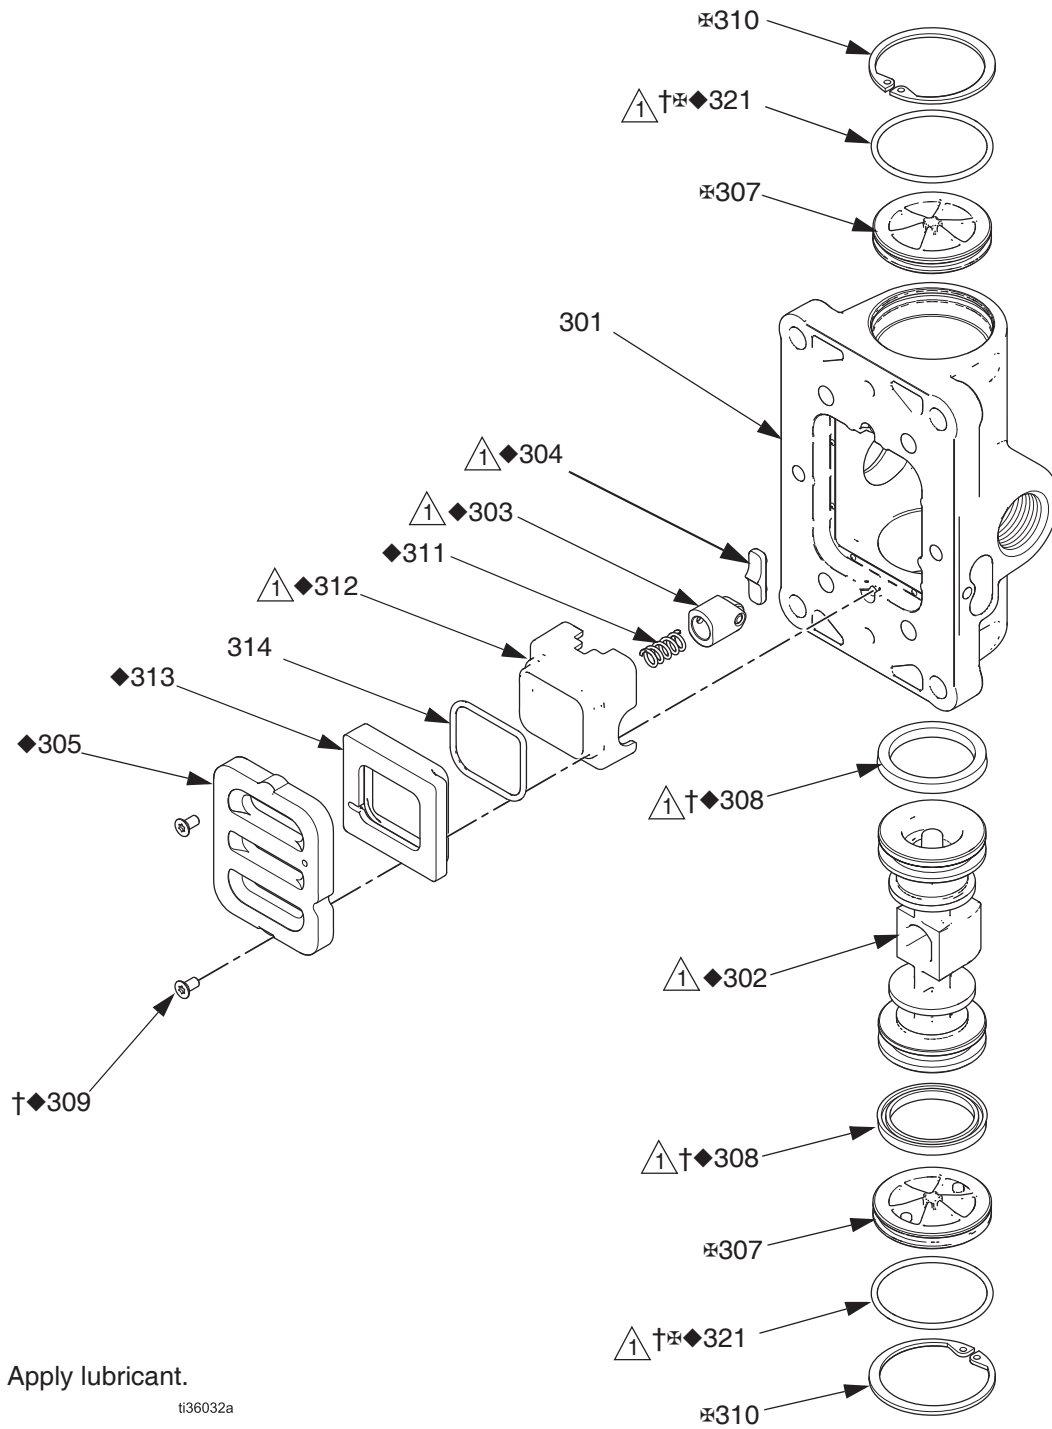
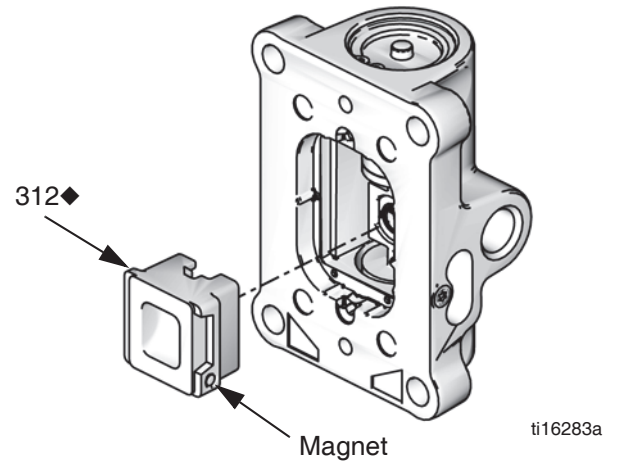

FIG. 6
FIG. 8
Use FIG. 6 and the following table to identify the kits needed for replacements:
2. See FIG. 6. Use a T10 star screwdriver to remove two screws (309†♦). Remove the valve plate (305♦), cup (312♦), and spring (311♦).
3. See FIG. 6. Remove the snap ring (310♦⊠) from each end. Use the piston (302♦) to push the end caps (307⊠) out of the ends. Remove end cap o-rings (306†⊠♦).
1. See FIG. 6. Lubricate detent cam (304♦) and install into housing (301).
3. See FIG. 6. Lubricate both ends of the piston (302♦) and install it in the housing (301).
5. Lubricate new o-rings (306†✱♦) and install on the end caps (307✱). Install the end caps into the housing (301).
7. Install the spring (311♦). Lubricate and install the pneumatic valve cup (312♦), see FIG. 8. Align the small round magnet with the pneumatic inlet.